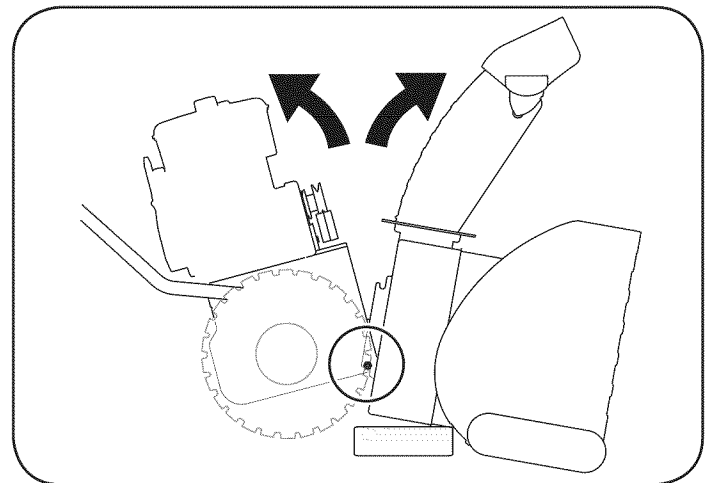

Figure 33
- Place a block of wood underneath the auger housing as shown in Figure 33 and separate auger housing from the frame by tilting the housing forward and pulling up the handles.